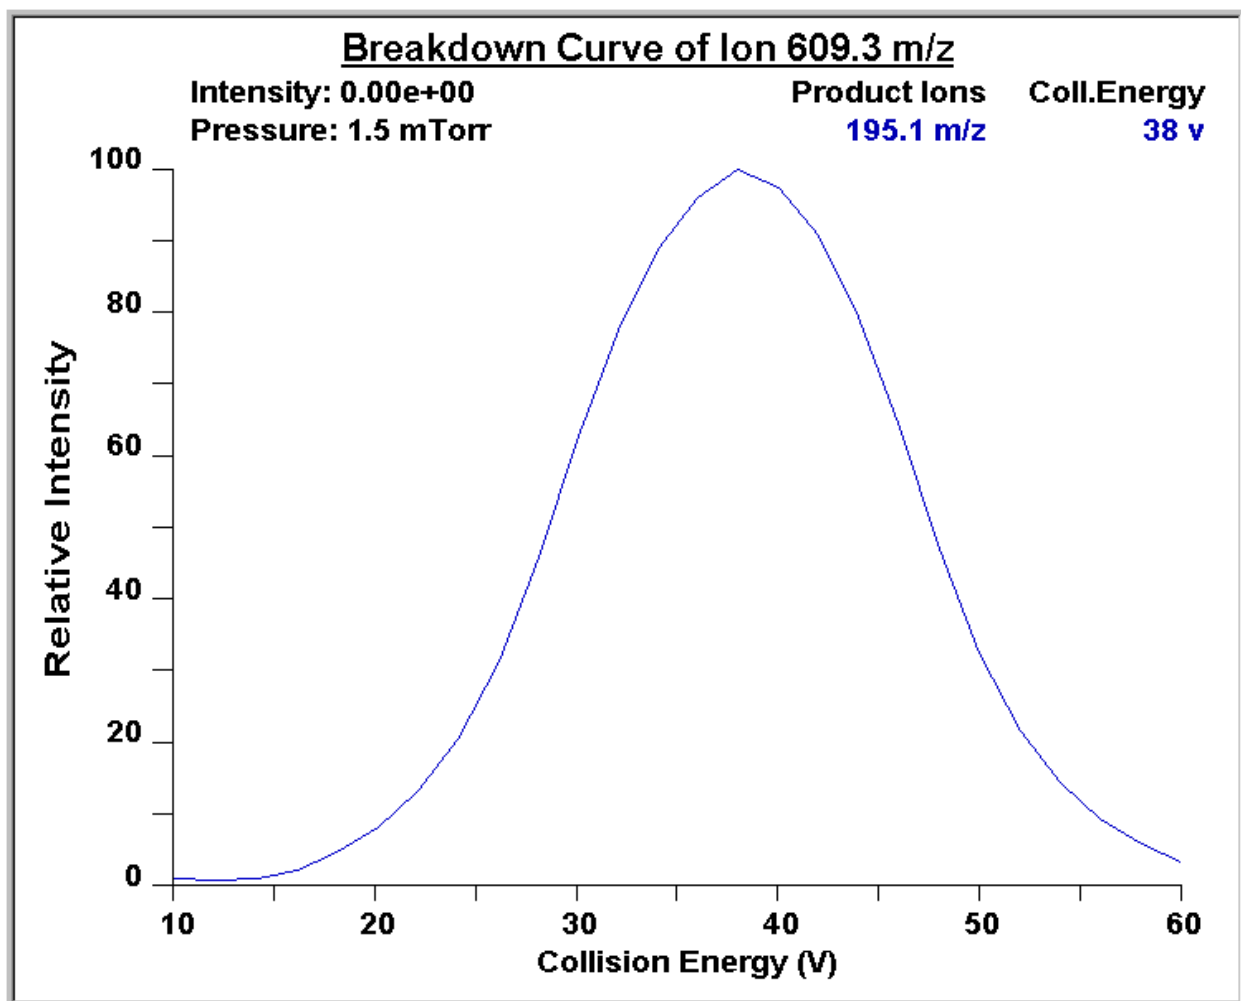

Figure 4-12. Breakdown curve of reserpine showing the relative intensity of the product ion at m/z 195.066 as a function of collision energy
- If the compound optimization procedure finishes without errors and the breakdown curve of the 195.066 fragment is Gaussian-shaped (as in Figure 4-12) or is a smooth, positive-sloped curve, go to step 5.